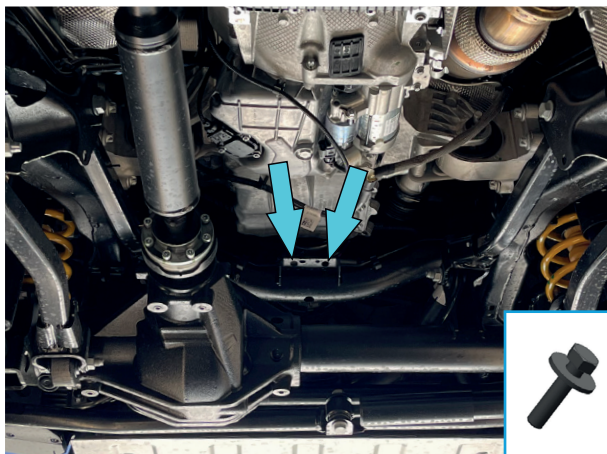

Fig. 1
1. Install bolts M10x30 with washers 10 (item B, E) into holes shown in fig.1.